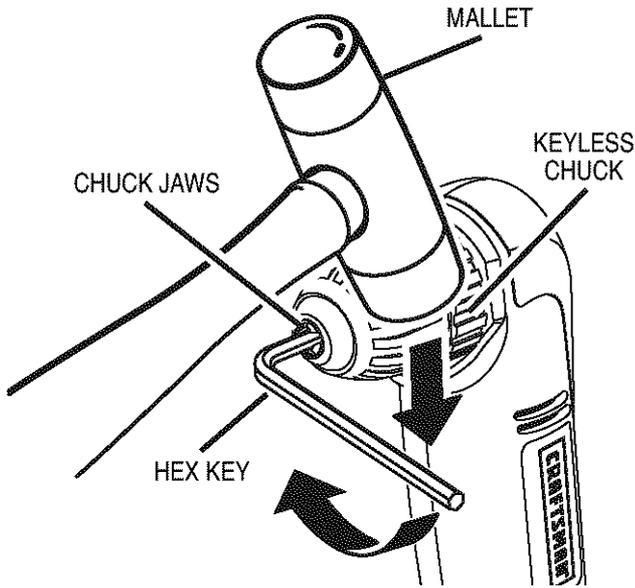

Fig. 9
See Figures 9, 10, and 11.
- Tap the hex key sharply with a mallet in a clockwise direction. See Figure 9. This will loosen the screw in the chuck for easy removal.